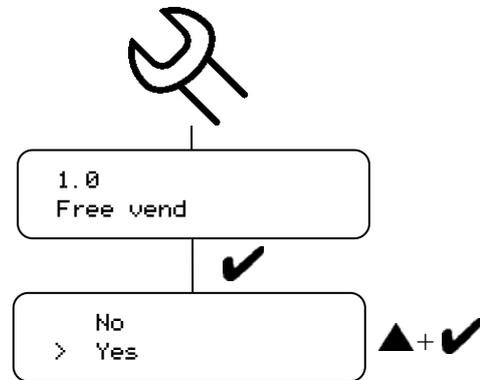

Fig. 27
**7.5.1 Setting drinks vending to pay (fig. 27)**